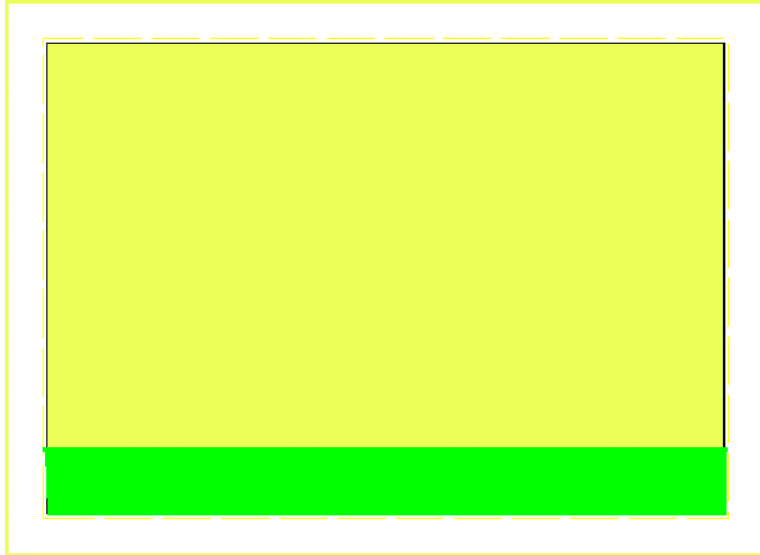

Figure 4-49
44. Select *Modify/Select/Window* and place a window that completely encompasses the whole bottom divided section of the template. This should include the legends. See Figure 4-49.